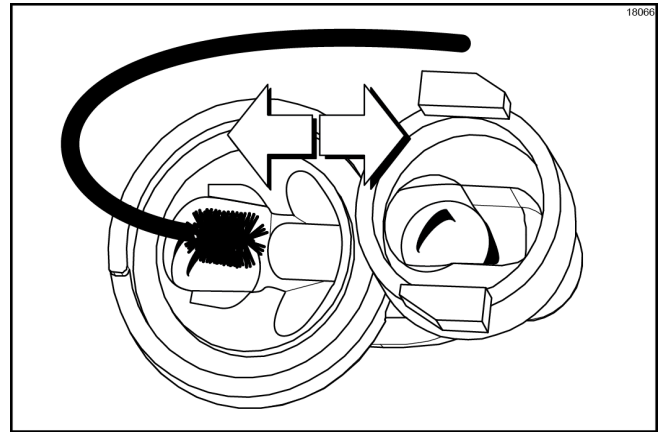

Figure-85
7. Move the brush back and forth to scrub this passageway. Advance the brush completely and pull the brush out of the valve body. (See Figure-85.)